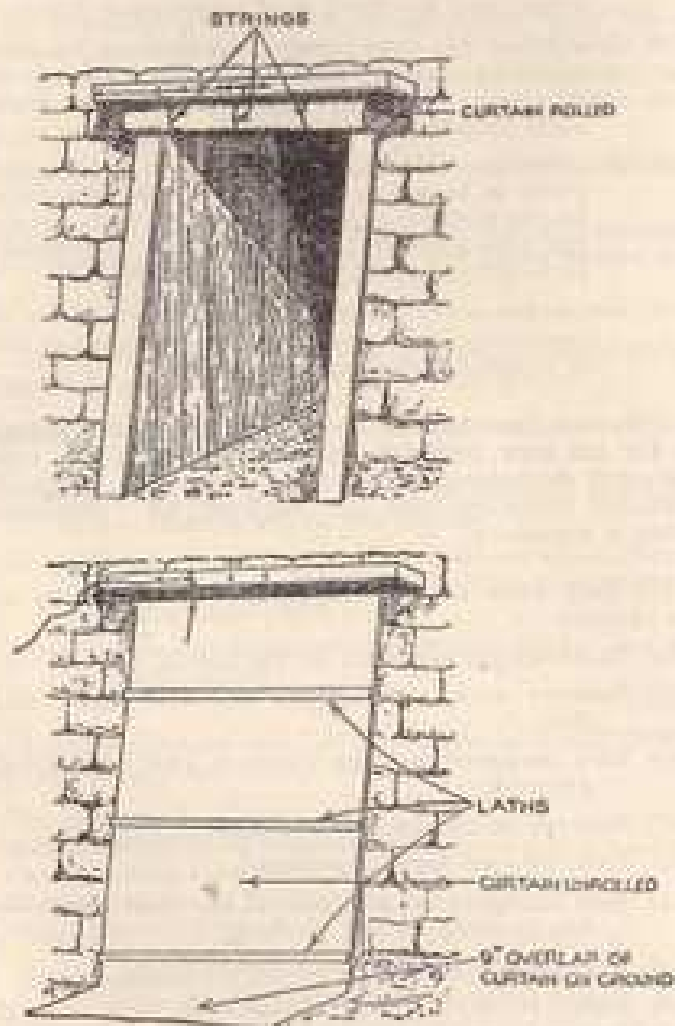

Fig. 3.—Air lock.
3. *Air locks.*—Fig. 3 shows one method of construction, by setting up two blanket curtains across the entrance passage. The curtains should be at least four feet apart; ten feet should be aimed at to give greater protection and to allow for a stretcher case with bearers to enter. The best arrangement is for the blankets to rest on inclined frames to ensure a close fit.